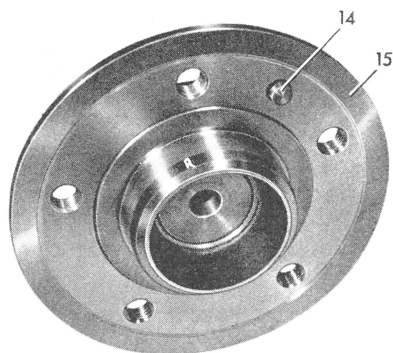

Fig. 11
**Note:** As a result of the grease returning spiral on running surface for outer sealing ring, the rear axle shaft flanges for the righthand and the lefthand end are different. For identification, the bevel on the centering surface carries a punched-in "R" (right-hand end) or an "L" (lefthand end) (Fig. 11).